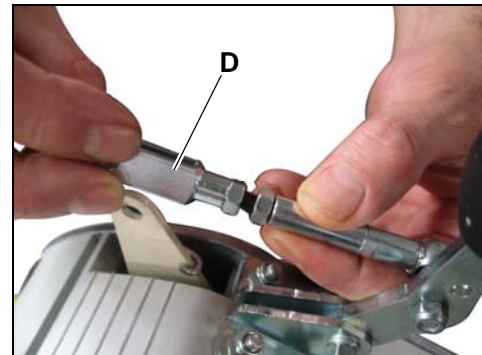

FIG. 7
- tighten the fork (D - figure 7) to reduce the amount of water in the sponge roller; loosen the fork to increase the amount of water;